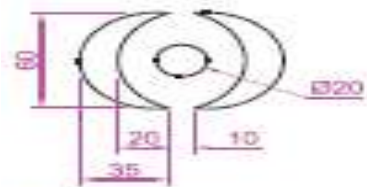

Fig. 5.19 Second example – the setting in the **Array** dialog
1. Construct the drawing shown in Fig. 5.19 .